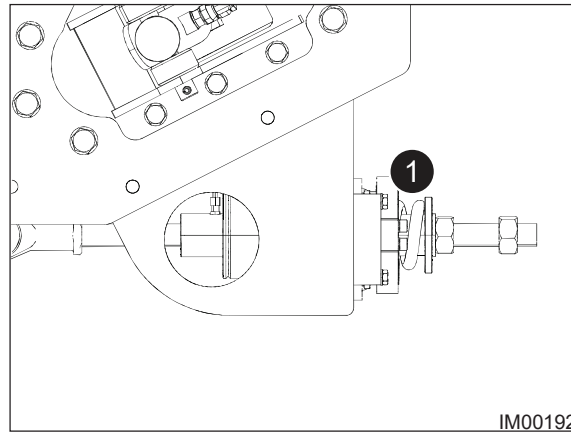

Fig: 7.10 - Locking Nut
6. Screw back the Spring Tensioning Nut (Item 1, Fig: 7.10). Screw it back approximately 38mm (1.5 inch).